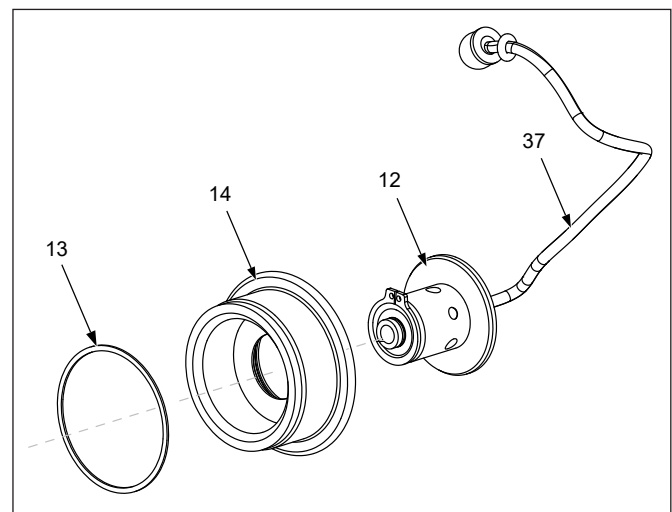

Figure 17: Exploded Square drive
1. Apply silicon lubricate to all components, except the two plate screws (35).
2. Re-assemble the spring (16), retainer tab (15), and grub screw (10), applying a small amount of Loctite 222 thread sealant on to the grub screw before installing the assembly into the retainer plate (24).
3. Fit the retainer plate (24) into the reaction arm body (2), apply a small amount of Loctite 243 thread sealant to the threaded mounting holes before inserting plate screws (35).
4. If removed, reattach the shackle ring (38), secured into place with the eyebolt. Loctite 222 should be applied to the thread of the eyebolt during assembly.
5. Install the wire assembly (36) into the rear of the piston sleeve. Slide the reaction arm (2) onto the wrench body (1), threading the end of the wire assembly (36) through the retainer plate (24) and secure by screwing the hex nut onto the end of the wire assembly (36).
7.2.5 Square drive Release Button Disassembly and Reassembly (Fig. 17)